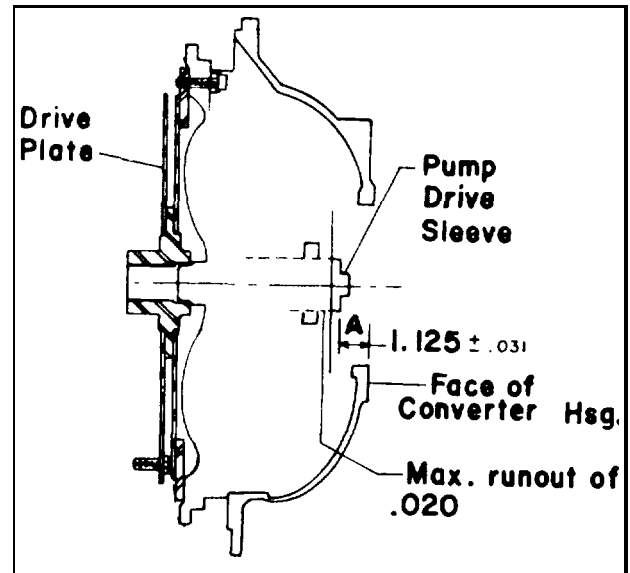

FIGURE 7-7.
b. Rotate the engine one full turn. The indicator should register not more than .020 inch (508 mm) total variation (see figure 7-7).